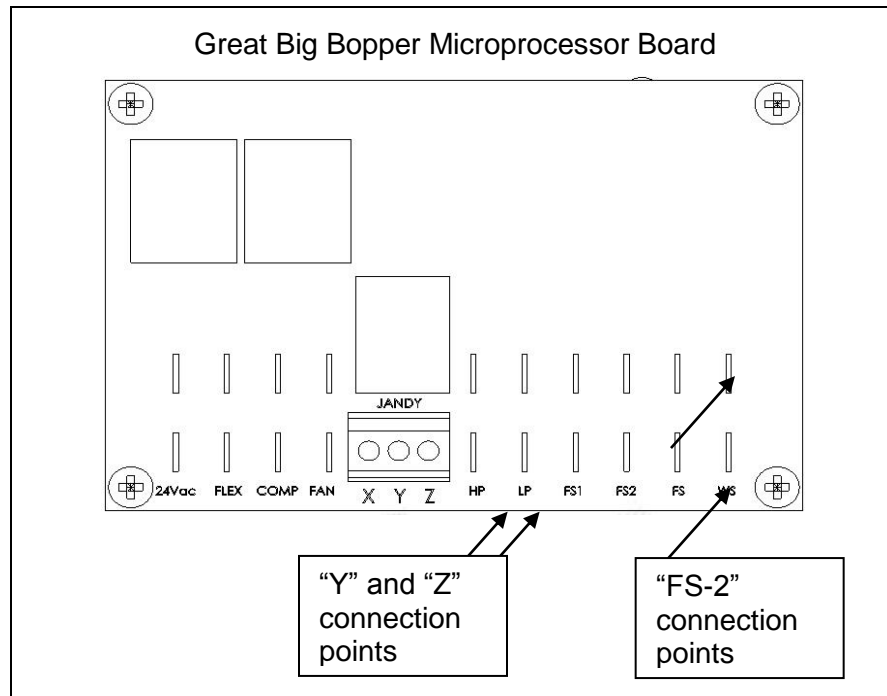

Figure 16
- 2) For a two-wire controller (which has a thermostat) – Connect to the "Y" and "Z" connections of the block labeled "X-Y-Z". See Figure 16.